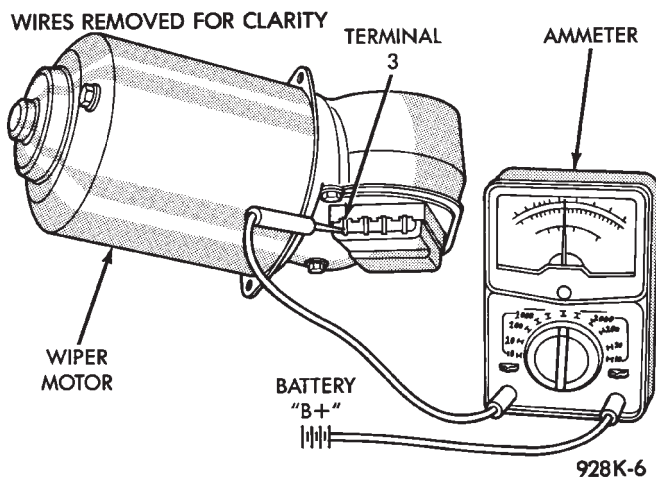

Fig. 9 Ammeter Between Terminal 3 and Battery
- (1) Disconnect wiring harness connector at motor. Remove wiper arms and blades. Connect an ammeter between battery (B+) and terminal 3 on motor (Fig. 9).
- (2) Check to see if wiper linkage or pivots are binding or caught. Disconnect drive link from motor.
- (3) Check motor wiring harness for shorting between high and low speed wires as follows: